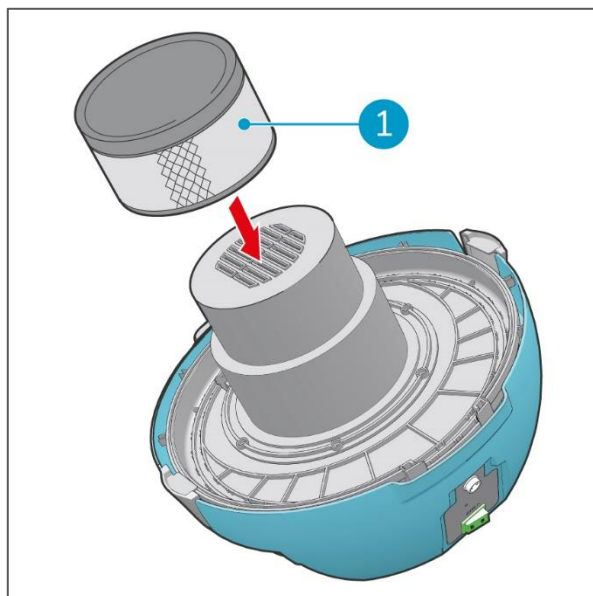

Figure 25
6. Lift the old motor filter (Figure 25, pos 1) up to remove it.
7. Place the new motor filter (Figure 25, pos 1).